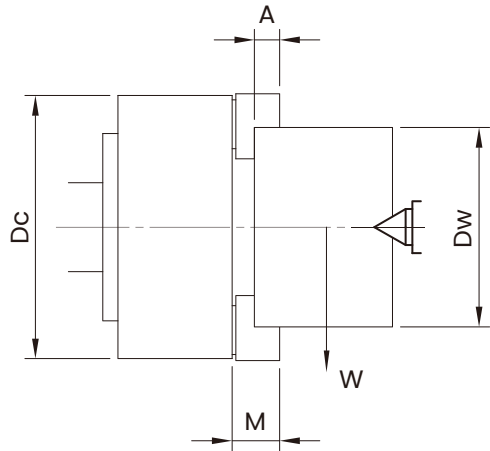

Fig.10
- 當夾持工件太長或太重時,需有中心架輔助(Fig.10)
- The center support is necessary when clamping longer or heavy workpiece (Fig.10)